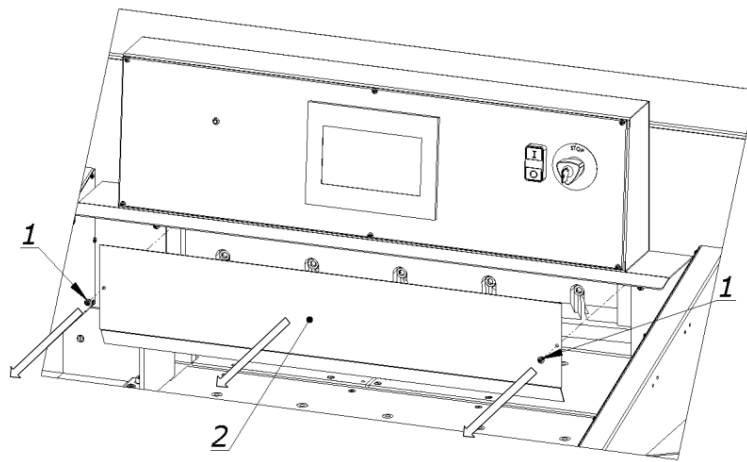

Figure.22
8.1.1.4 Remove the two screws (1, fig. 22) securing the cover (2) and remove the cover.